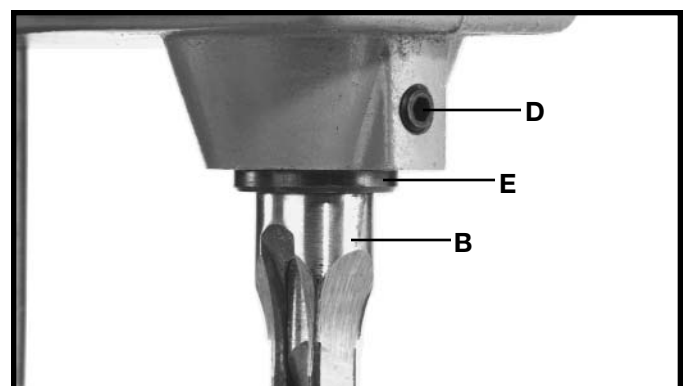

Fig. 14
4. Loosen set screw (D) Fig. 14, and push chisel (B) up against bottom of bushing (E), as shown, and tighten set screw (D). This should provide the proper distance between the cutting lips of the bit and the points of the chisel.